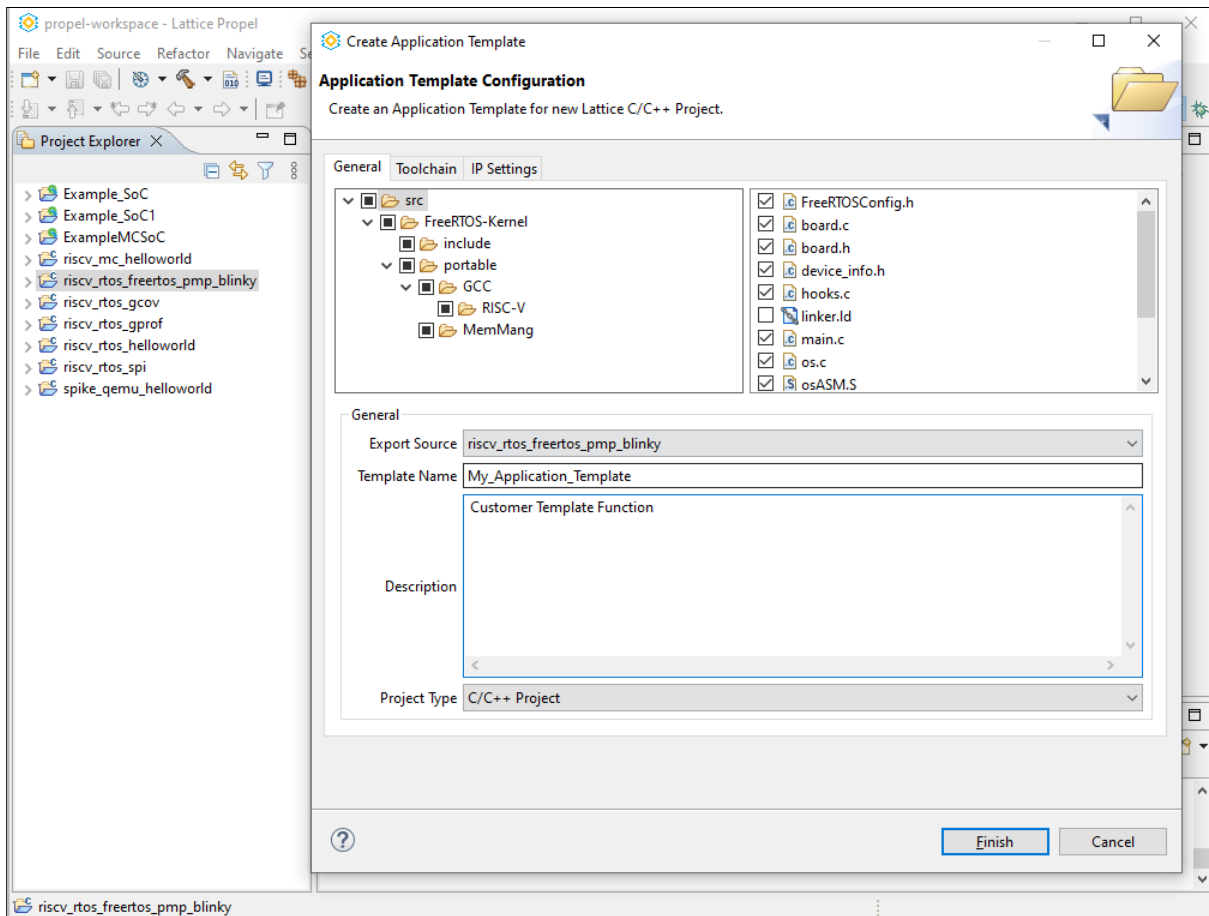

Figure 3.7. Create Application Template – General
1. From Lattice Propel SDK, select a C/C++ project and choose **Project > Create Lattice Application Template**. The **Create Application Template** wizard opens Figure 3.7.
- Under the General tab (Figure 3.7), select project code files, all files except linker.ld are checked. It is recommended to keep these selections to avoid potential errors in building.